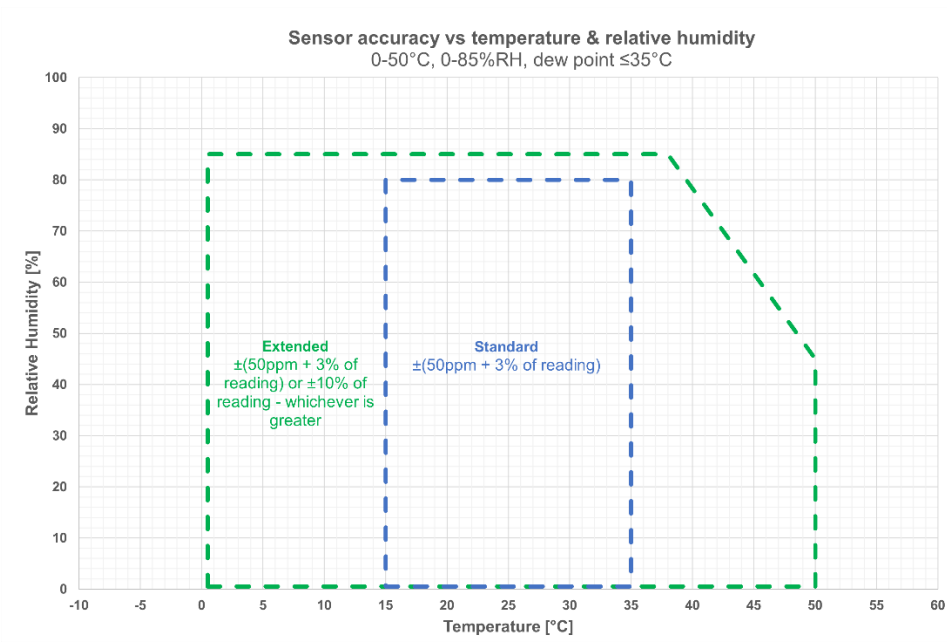

Figure 4. Accuracy over complete operating range (temperature and relative humidity)
Operating range	0–50 °C, 0–85% RH (non-condensing), (see figure 4)
- Note 2: ANSI/ASHRAE Addendum ab to ANSI/ASHRAE Standard 62.1-2022 specifies sensor to be accurate within ±75 ppm at concentrations of 600, 1000, and 2500 ppm when measured at sea level at 77 °F (25 °C). See figure 4.
- Note 9: nRDY output pin disabled. See Figure 4 Average current.